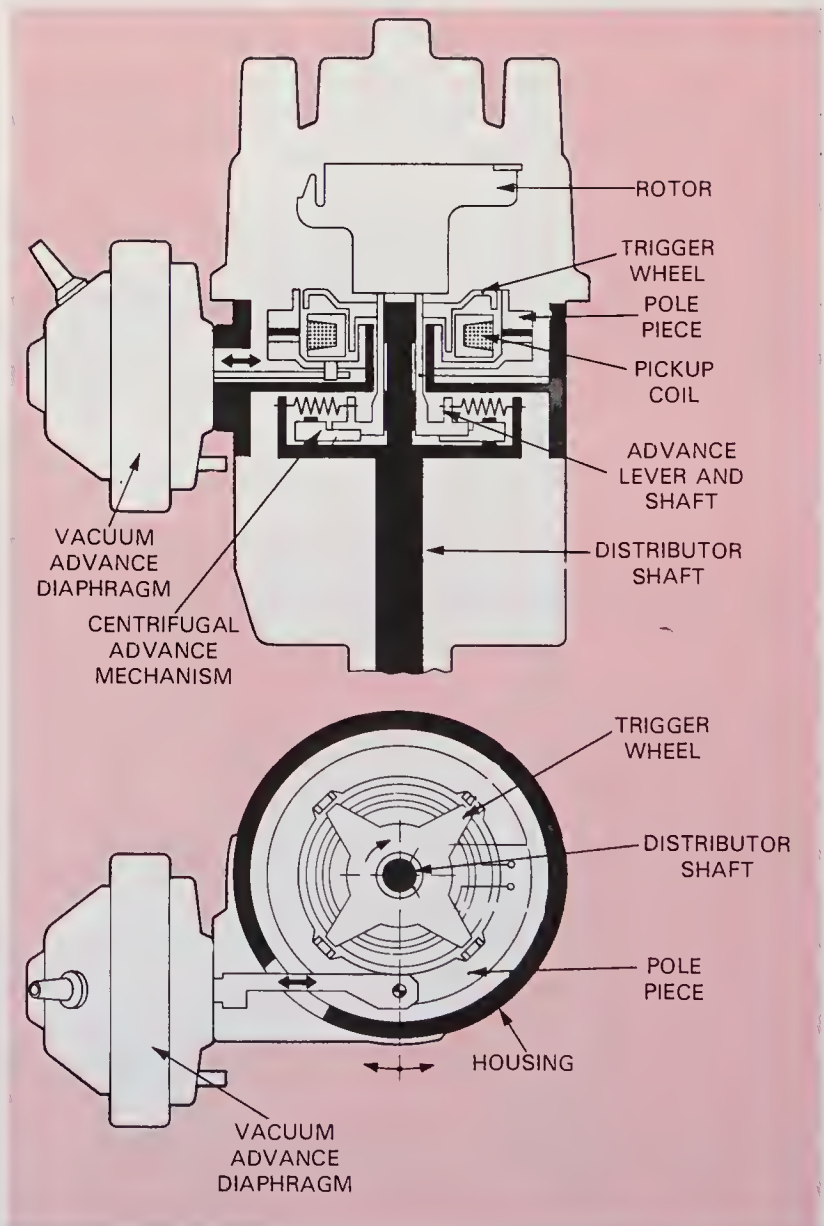

Fig. 32-23. Study parts of vacuum and centrifugal advance mechanisms. (Robert Bosch)
1. DISTRIBUTOR CENTRIFUGAL ADVANCE (controlled by engine speed), Fig. 32-23.
2. DISTRIBUTOR VACUUM ADVANCE (controlled by engine intake manifold vacuum and engine load), Fig. 32-23.
The *distributor centrifugal advance* makes the ignition coil and spark plugs fire sooner as engine speed increases. See Fig. 32-23. It uses spring-loaded weights, centrifugal force, and level action to rotate the distributor cam, or trigger wheel on the distributor shaft. By rotating the cam or trigger wheel against distributor shaft rotation, spark timing is advanced.